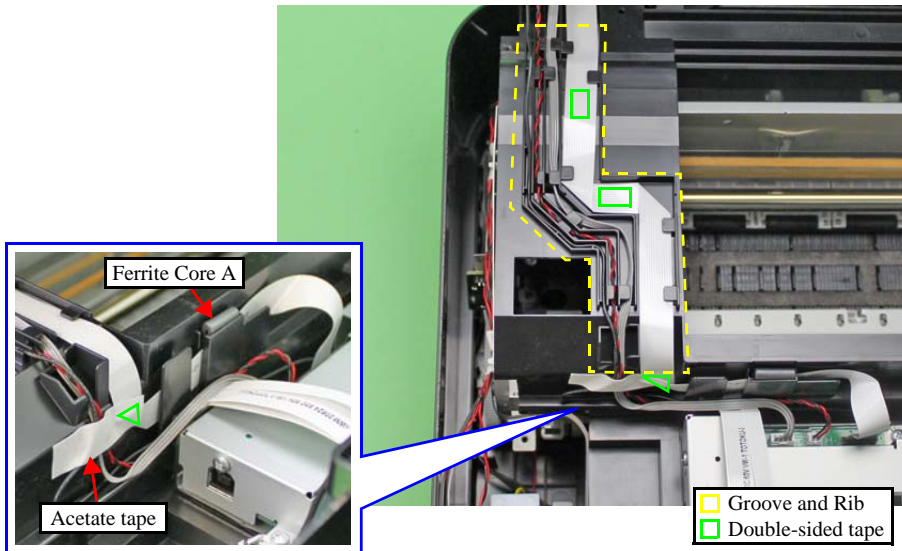

Figure 8-3. Removing the Scanner Unit (2)
- After routing the cables, put the ferrite core of the Scanner CR Motor cable in the groove of the Middle Housing. (See Figure 8-3.)
- After routing the cables, secure them with acetate tape and double-sided tape as shown in Fig. 8-3.